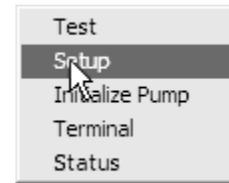

Figure 4: Select "Setup"
2. On main menu, choose Utility > Setup, as in **Figure 4**.